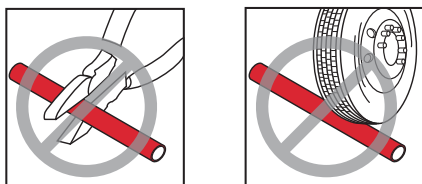

Figure 5: Avoid cutting and crushing the heating cable
- Avoid damaging heating cables by cutting or crushing (Figure 5).